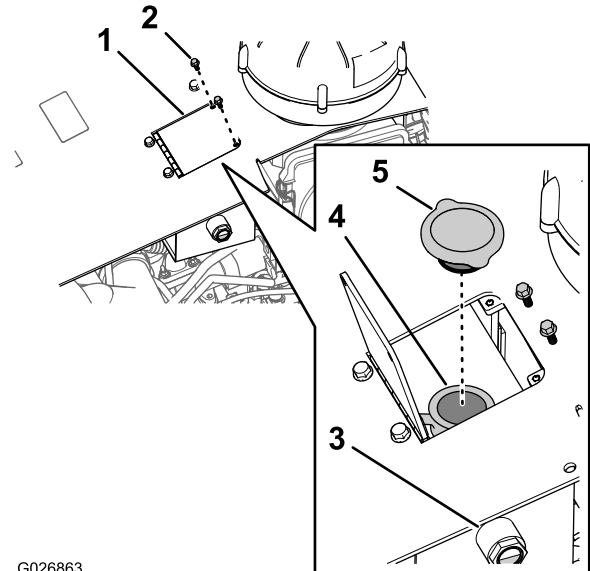
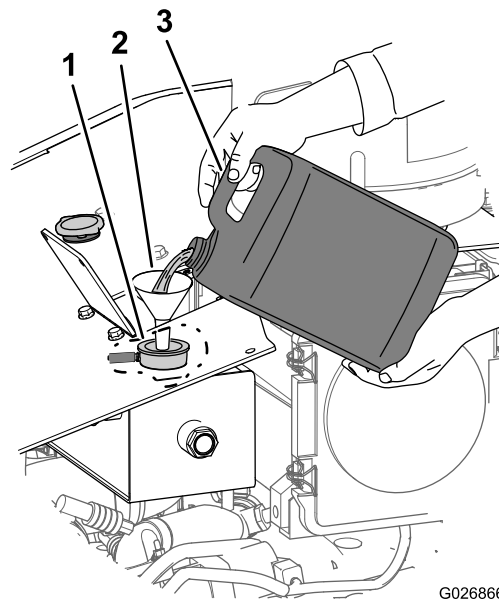

Figure 103
Figure 110
4. Check the coolant level by looking at the sight gauge in the side of the surge tank (Figure 103).
- A. Remove the 2 hex-head bolts that secure the to the hood of the machine, and open the reservoir door (Figure 103).
- B. Remove the recovery-tank cap from the recovery tank, and add coolant until the level is up to the midpoint of the sight gauge (Figure 103).
2. Remove the 2 hex-head bolts that secure the reservoir door to the hood and open the door (Figure 103).
3. Remove the recovery-tank cap from the tank (Figure 103).
1. Remove the radiator cap from the recovery tank (Figure 103).
2. Fill the cooling system with the specified coolant mixture (Figure 110) until the fluid level is up to the midpoint in the sight gauge (Figure 103).